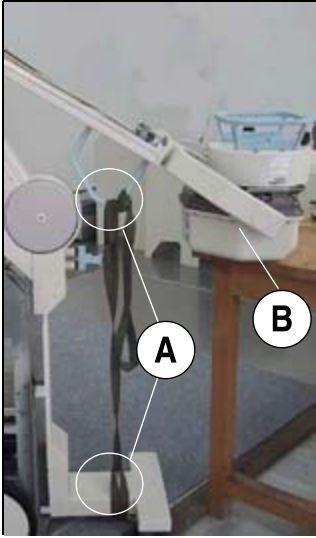

Fig. 18: Single-tank service position
- Use a rope or tightening belt to secure the system support arm against lifting (B/Fig. 18 / p. 53).